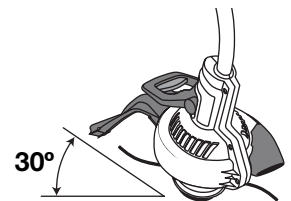

Fig. 9
- If the shift handle is in the DOWN position, grasp the yellow shift latch (Fig. 9) on the shift handle and squeeze until the internal locking mechanism releases.
Decorative trimming is accomplished by removing all vegetation around trees, posts, fences and more. Rotate the whole unit so that the cutting attachment is at a 30° angle to the ground (Fig. 9).